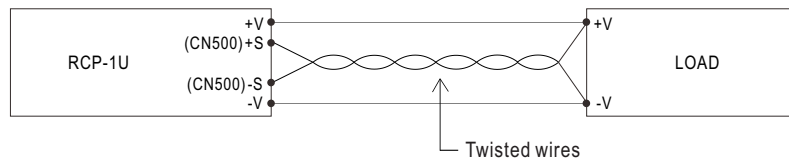

Figure 3-4: Connection for using the "Remote Sense" function
- ⊗ When using this function, the sensing wires should either be twisted or shielded to prevent external noise interference. (refer to Figure 3-4)